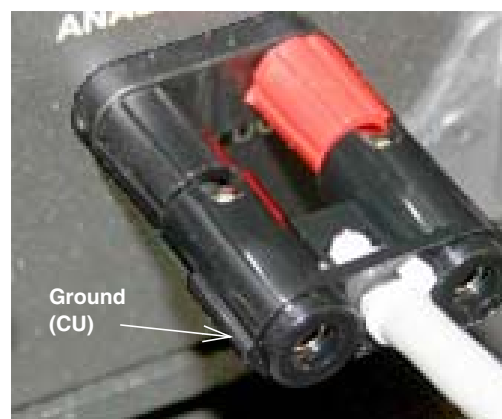

Figure 3-5 Rf external detector cable connections
5. Connect the external detector cable (Isco part #250-0000-20) to the Rf200 (Figure 3-5).